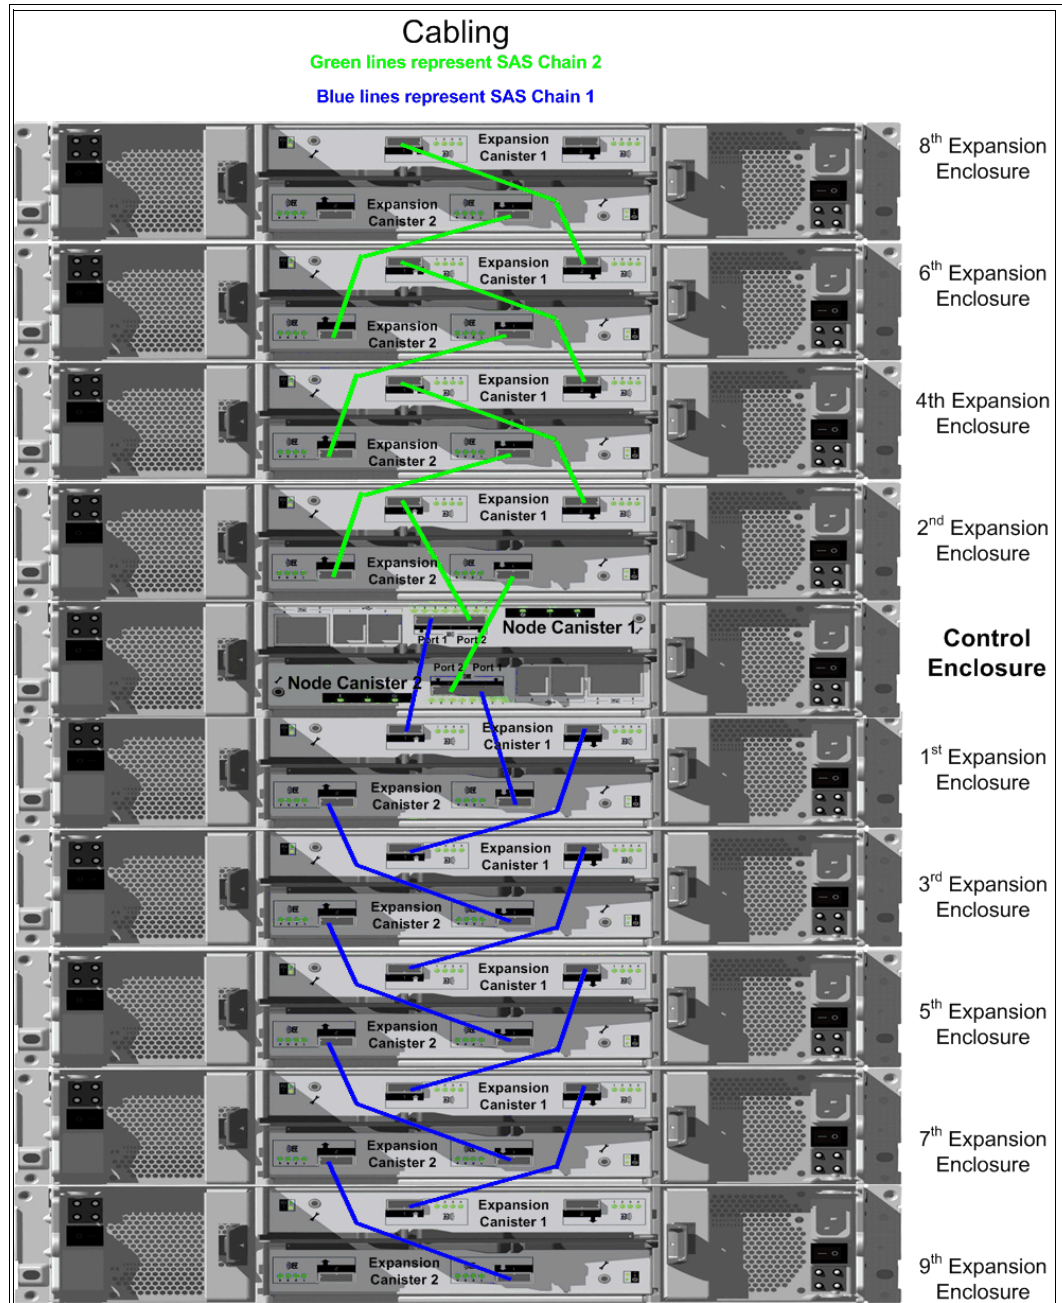

Figure 2-1 Racking and cabling diagram
- Two 1-, 3-, or 6-meter SAS cables per expansion enclosure are required. The length of the cables depends on the physical rack location they are installed in relative to the control enclosure or other expansion enclosures. Locate the control enclosure so that four enclosures can be located above it and five enclosures below, as shown in Figure 2-1 (which shows the full racking and cabling scheme).